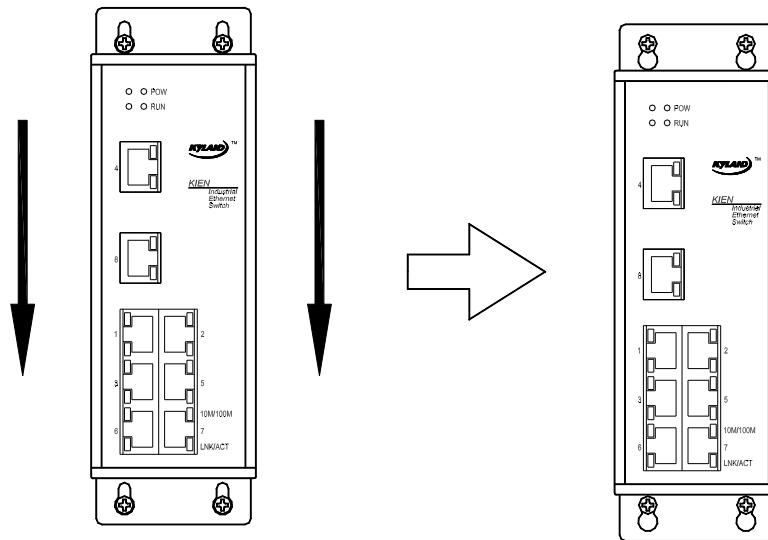

Figure 4-5 Schematic diagram for wall-mounting process
- 4 . After fastening the screws on the wall, mount KIEN5000 in the selected position. Pass the four screws through the four $\Phi 65$ holes on the wall-mounting plate and slip KIEN5000 downwards, as shown in Figure 4-5. Fasten the four screws. KIEN5000 has now been fastened on the wall or inner wall of cabinet.